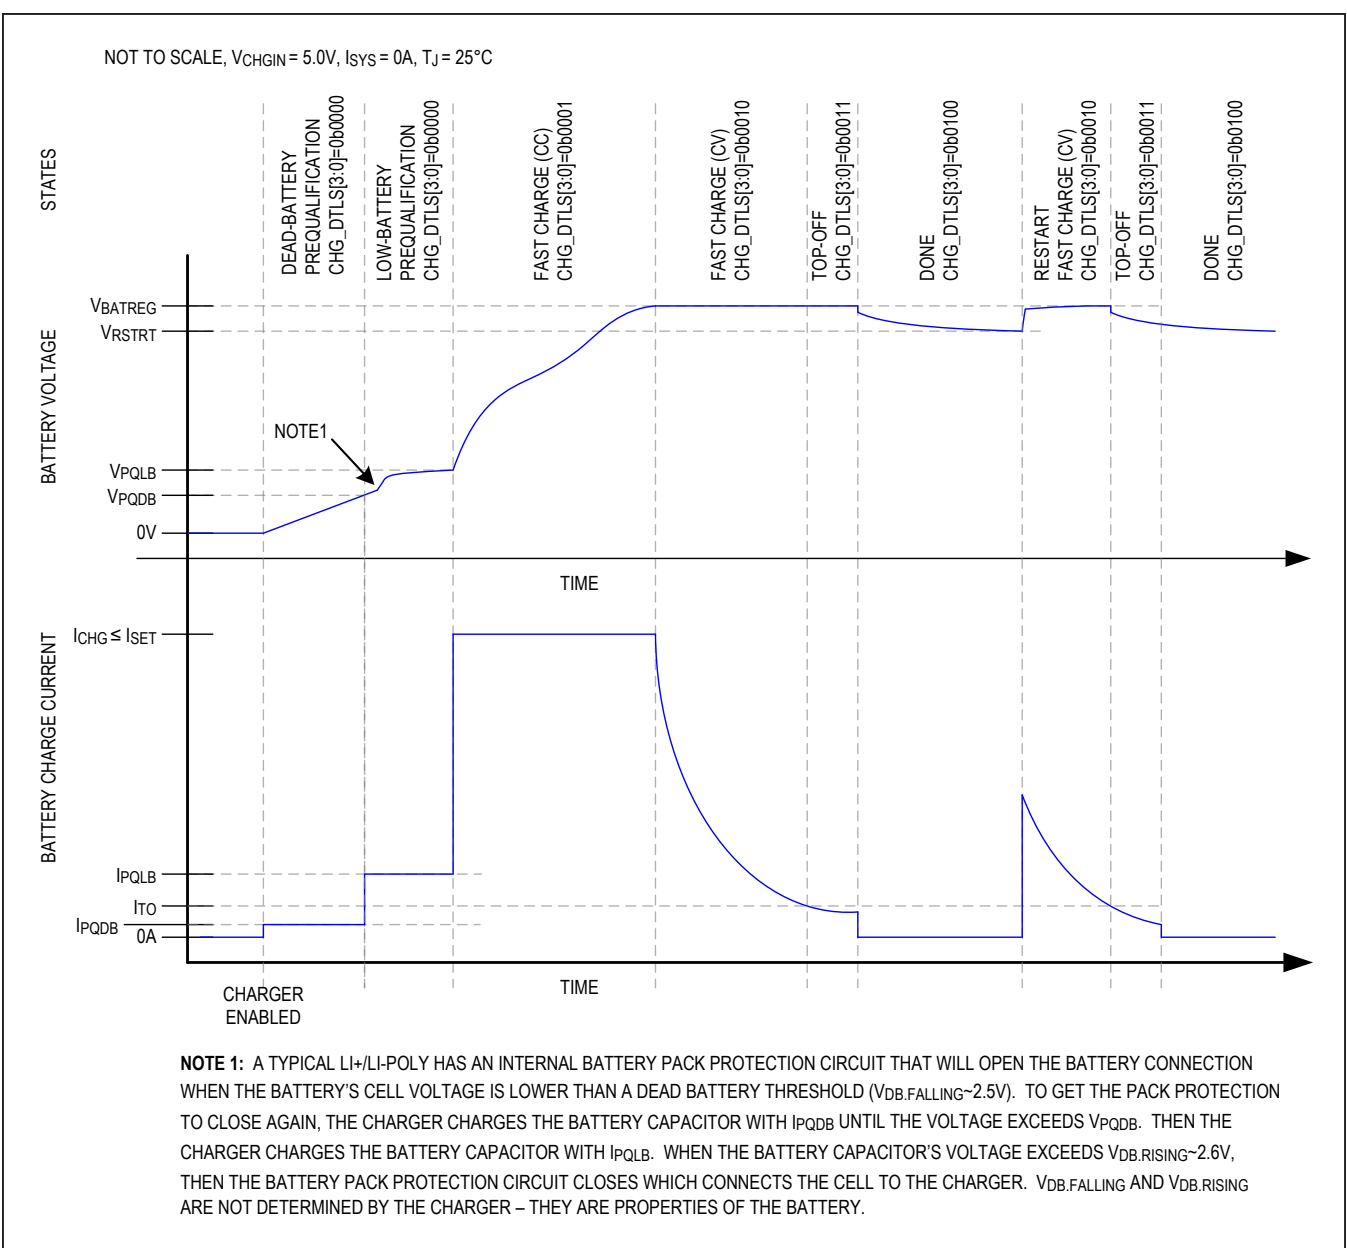
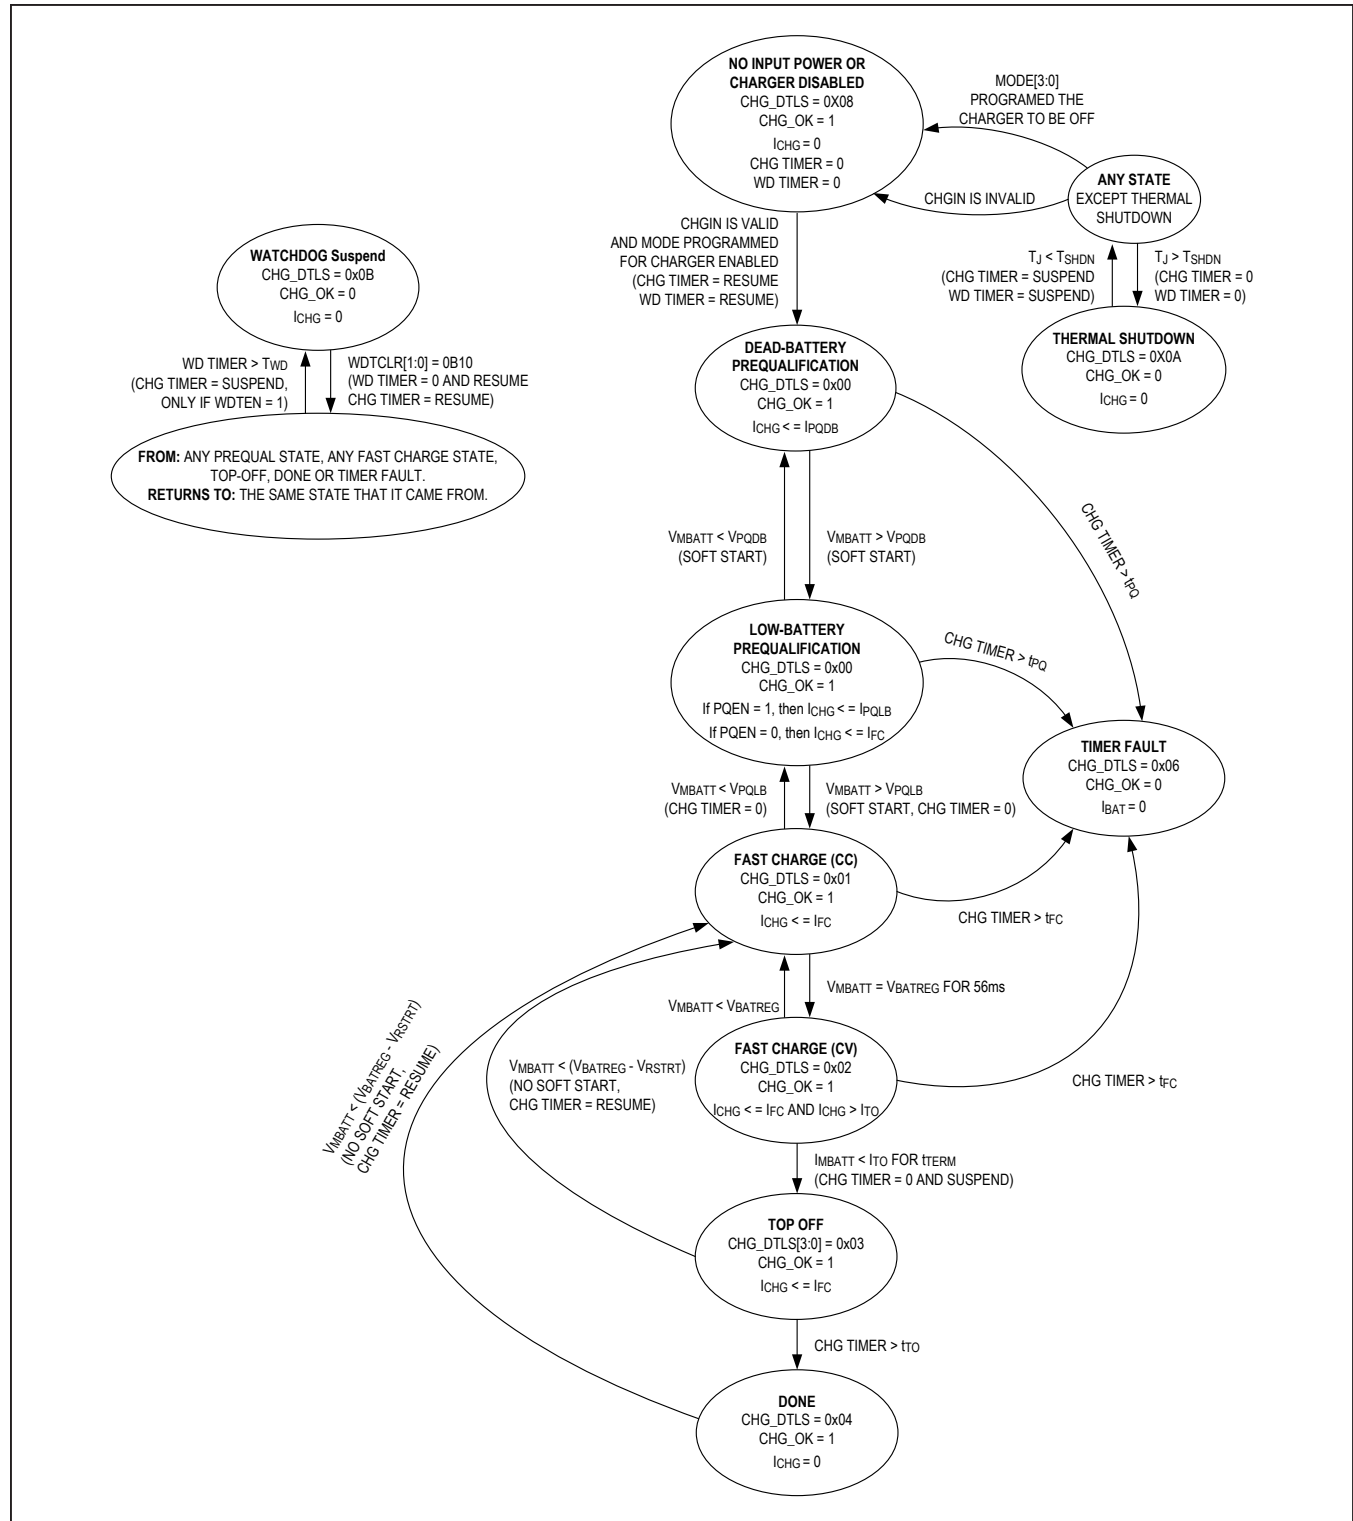

Figure 6. Li+/Li-Poly Charge Profile
Figure 7. Charger State Diagram
The MAX77818 utilizes several charging states to safely and quickly charge batteries as shown in Figure 6 and Figure 7. Figure 6 shows an exaggerated view of a Li+/Li-Poly battery progressing through the following charge states when there is no system load and the die and battery are close to room temperature: daed battery/low battery prequalification → fast-charge → top-off → done.
From any state shown in Figure 7 except thermal shut-down, the no input power or charger disabled state is entered whenever the charger is programmed to be off or the charger input CHGIN is invalid. After being in this state for t_{SCIDG} , a CHG_I interrupt is generated, CHG_OK is set, and CHG_DTLS[3:0] is set to 0x08.
As shown in Figure 7, the dead battery prequalification state occurs when the main battery voltage is less than V_{PQDB} . After being in this state for t_{SCIDG} , a CHG_I interrupt is generated, CHG_OK is set, and CHG_DTLS[3:0] is set to 0x00. In the dead battery prequalification state, charge current into the battery is I_{PQDB} .
As shown in Figure 7, the fast-charge constant current (CC) state occurs when the main battery voltage is greater than the low battery prequalification threshold and less than the battery regulation threshold ($V_{PQLB} < V_{BATT} < V_{BATREG}$). After being in the fast-charge CC state for t_{SCIDG} , a CHG_I interrupt is generated, CHG_OK is set and CHG_DTLS[3:0] = 0x01.
As shown in Figure 7, the fast-charge constant voltage (CV) state occurs when the battery voltage rises to V_{BATREG} from the fast-charge CC state. After being in the fast-charge CV state for t_{SCIDG} , a CHG_I interrupt is generated, CHG_OK is set, and CHG_DTLS[3:0] = 0x02.
In the fast-charge CV state, the battery charger maintains V_{BATREG} across the battery and the charge current is less than or equal to I_{FC} . As shown in Figure 6, charger current decreases exponentially in this state as the battery becomes fully charged.
As shown in Figure 7, the top-off state can only be entered from the fast-charge CV state when the charger current decreases below I_{TO} for t_{TERM} . After being in the top-off state for t_{SCIDG} , a CHG_I interrupt is generated, CHG_OK is set, and CHG_DTLS[3:0] = 0x03. In the top-off state, the battery charger tries to maintain V_{BATREG} across the battery and typically the charge current is less than or equal to I_{TO} .
As shown in Figure 7, the battery charger enters its done state after the charger has been in the top-off state for t_{TO} . After being in this state for t_{SCIDG} , a CHG_I interrupt is generated, CHG_OK is cleared, and CHG_DTLS[3:0] = 0x04.
The battery charger provides both a charge timer and a watchdog timer to ensure safe charging. As shown in Figure 7, the charge timer prevents the battery from charging indefinitely. The time that the charger is allowed to remain in each of its prequalification states is t_{PQ} . The time that the charger is allowed to remain in the fast-charge CC and CV states is t_{FC} , which is programmable with FCHGTIME. Finally, the time that the charger is in the top-off state is t_{TO} , which is programmable with TO_TIME . Upon entering the timer-fault state, a CHG_I interrupt is generated without a delay, CHG_OK is cleared, and CHG_DTLS = 0x06.
In the timer-fault state the charger is off. The charger can exit the timer-fault state by programming the charger to be off and then programming it to be on again through the MODE bits. Alternatively, the charger input can be removed and reinserted to exit the timer-fault state. See the any state bubble in the upper right of Figure 7.
The battery charger provides both a charge timer and a watchdog timer to ensure safe charging. As shown in Figure 7, the watchdog timer protects the battery from charging indefinitely in the event that the host hangs or otherwise cannot communicate correctly. The watchdog timer is disabled by default with WDTEN = 0. To use the watchdog timer feature, enable the feature by setting WDTEN. While enabled, the system controller must reset the watchdog timer within the timer period (t_{WD}) for the charger to operate normally. Reset the watchdog timer by programming WDTCLR = 0x01.
As shown in Figure 7, the thermal-shutdown state occurs when the battery charger is in any state and the junction temperature (T_J) exceeds the device's thermal-shutdown threshold (T_{SHDN}). When T_J is close to T_{SHDN} , the charger has folded back the input current limit to 0A so the charger and inputs are effectively off. Upon entering this state, CHG_I interrupt is generated without a delay, CHG_OK is cleared, and CHG_DTLS[3:0] = 0x0A.